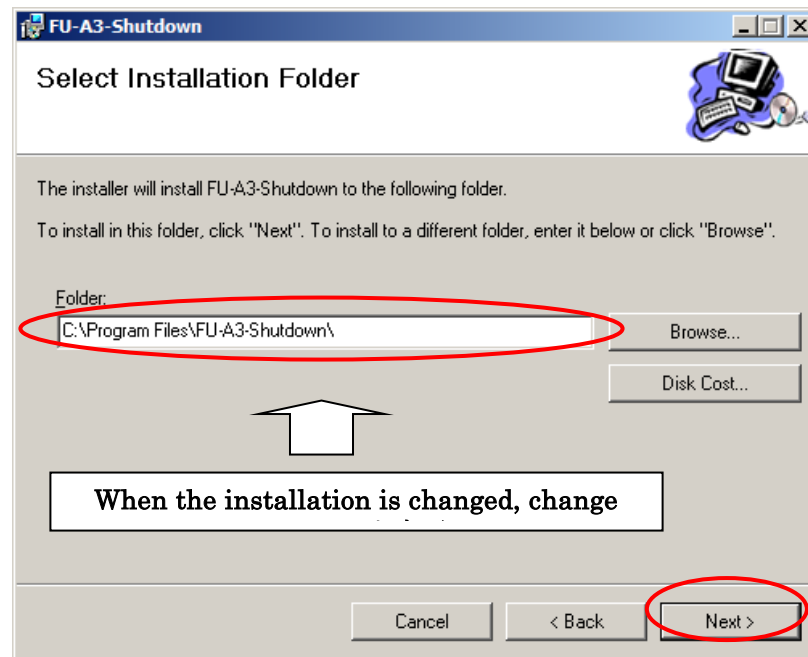

Figure 3 FU-a3-Shutdown screen
3. The screen of license agreement is displayed as shown in Figure 3.